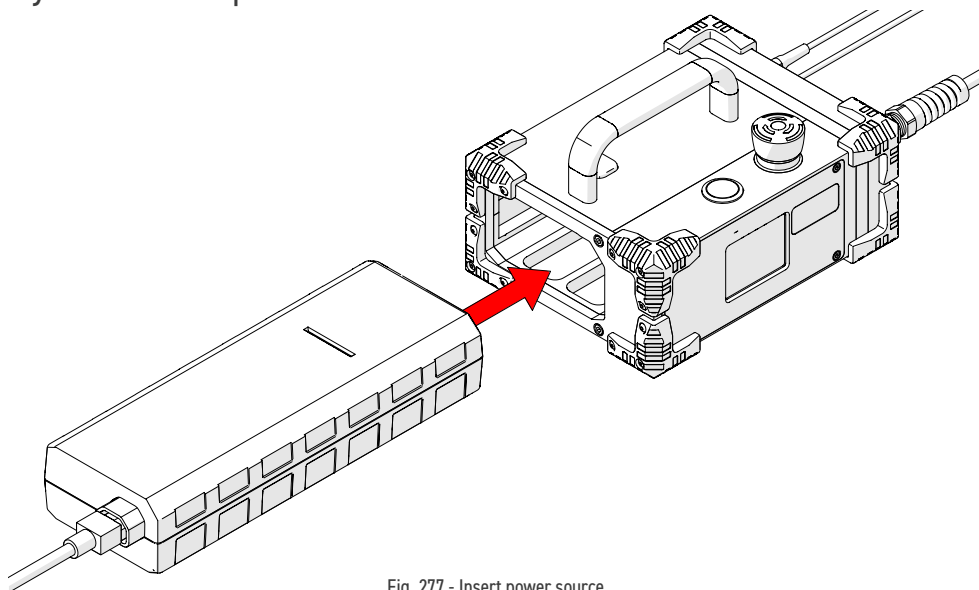

Fig. 277 - Insert power source
1. Insert the power source (Fig. 277) into the power controller dock.